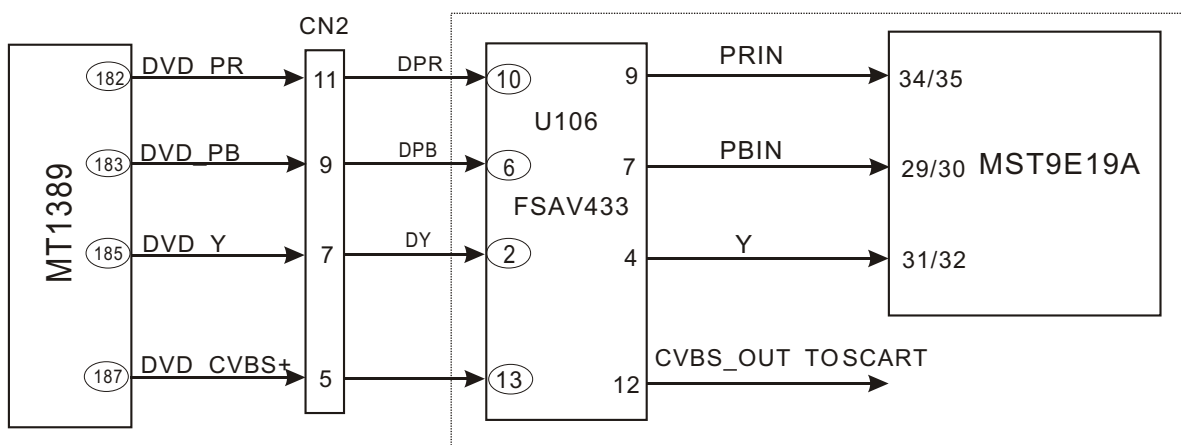

Figure 3.1.2.1 Video signalflow chart
1. Video signal flow chart diagram is shown as in the following figure 3.1.2.1 :